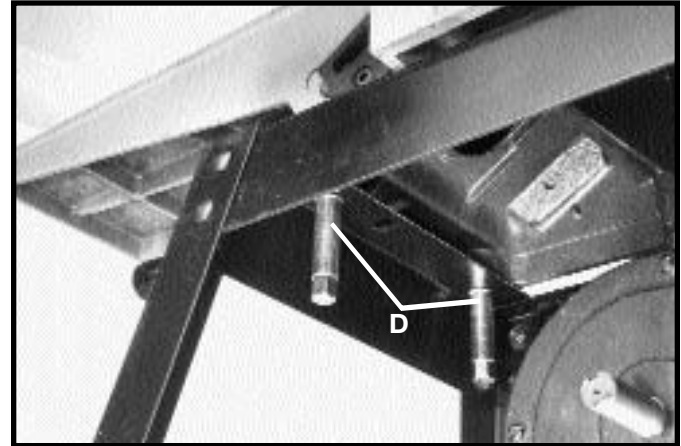
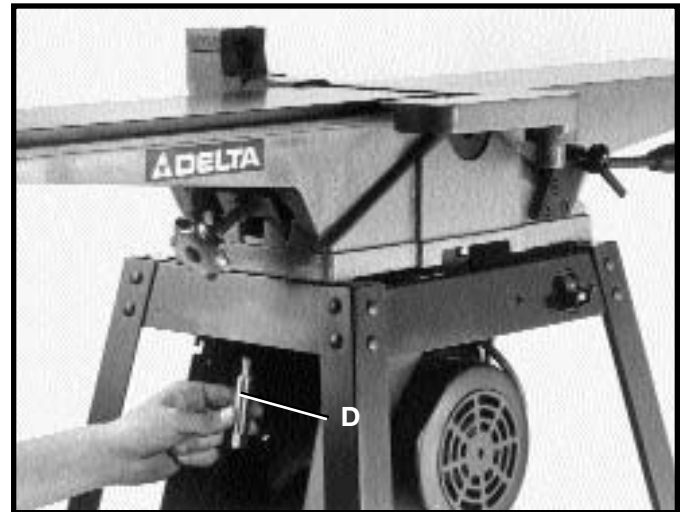

Fig. 10
Fig. 11
3. Using the supplied wrench, fasten the jointer to the top of stand using the three lockwashers and special studs. Two of the special studs are shown at (D) Fig. 10, for the infeed end of the machine, and one special stud is shown at (D) Fig. 11, for the outfeed end of machine.